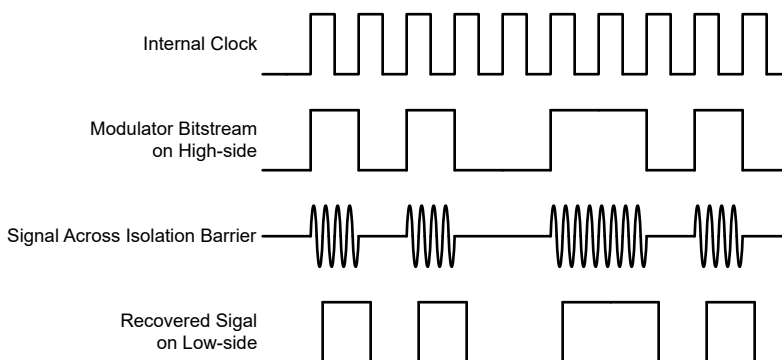

Figure 7-1. OOK-Based Modulation Scheme
As shown in Figure 7-1, the AMC0x11S uses an on-off keying (OOK) modulation scheme to transmit the modulator output bitstream across the SiO₂-based isolation barrier. The transmit driver (TX) is illustrated in the Functional Block Diagram. TX transmits an internally generated, high-frequency carrier across the isolation barrier to represent a digital *one*. However, TX does not send a signal to represent a digital *zero*. The nominal frequency of the carrier used inside the AMC0x11S is 480MHz.